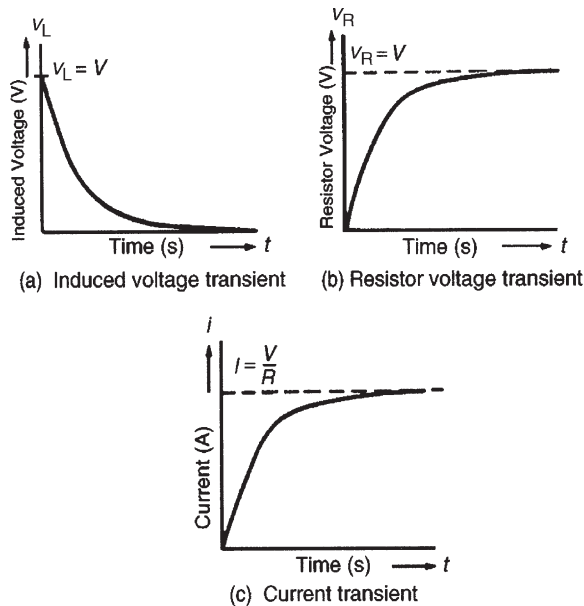

Figure 18.11
- (g) Curves showing the changes in  $v_L$ ,  $v_R$  and  $i$  with time are shown in Fig. 18.11 and indicate that  $v_L$  is a maximum value initially (i.e. equal to  $V$ ), decaying exponentially to zero, whereas  $v_R$  and  $i$  grow exponentially from zero to their steady-state values of  $V$  and  $I = V/R$ , respectively.
Transient curves representing the induced voltage/time, resistor voltage/time and current/time characteristics may be drawn graphically, as outlined in Section 18.4. A method of construction is shown in Problem 8. Each of the transient curves shown in Fig. 18.11 have mathematical equations, and these are: